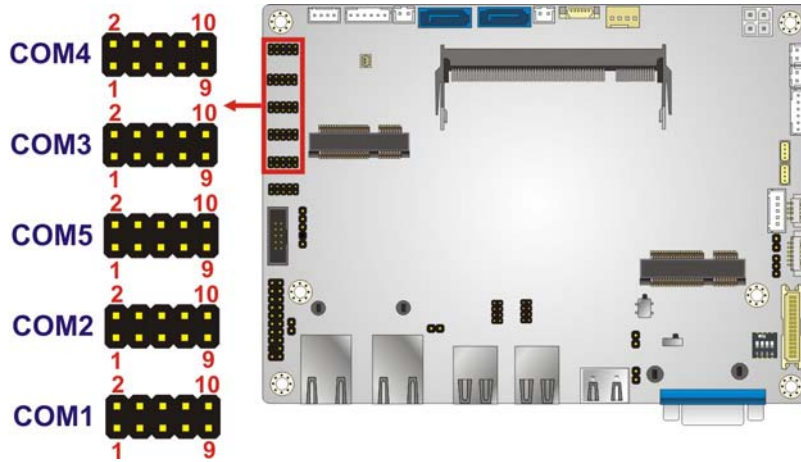

Figure 3-20: RS-232 Serial Port Connector Location
- CN Location: See **Figure 3-20**